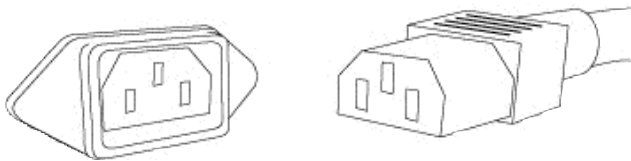

Figure 2 - Align socket pins to corresponding holes and push together.
- C - Sets 1 & 2 of the RCA Single-Ended Outputs - These unbalanced outputs are single ended and should be used when connecting the outputs to another single-ended unit. These two outputs, as with the XLR outputs (B), allow for easier biamping and greater system flexibility.
- D - RCA Single-Ended Tape Output - These outputs connect to the inputs of a tape deck. When not recording these outputs should be muted via the Record / Off Switch (O).
- I - Direct RCA Single-Ended Input - This input accepts a single-ended input connection from any source to achieve the highest possible sonic performance, bypassing the Balance Control (Q) and the Record / Off Switch (O).
- J - Direct XLR Balanced Input - This input accepts a balanced input connection from any source to achieve the highest possible sonic performance, bypassing the Balance Control (Q) and the Record / Off Switch (O).
- K - Detachable Power Cord Socket - Plug the Power Supply's Detachable Power Cord into this socket (see Figure 2). The SFL-2 is factory set for the correct operating voltage for the area in which it is sold (see shipping box for voltage setting). If a different operating voltage is required, please contact an authorized Sonic Frontiers dealer, distributor or the factory directly.